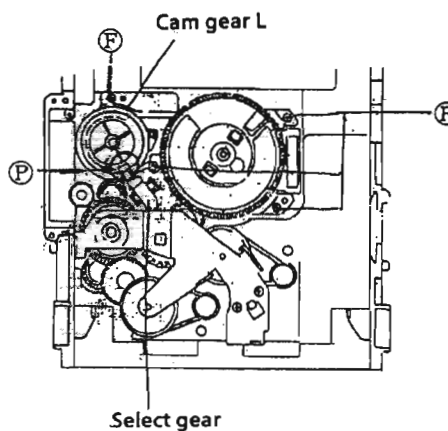

Fig. 2-17
4. Rotate the Cam gear L so that the select gear's (P) is positioned as shown in Fig. 2-17.
5. Remove 4 screws (F) securing the cam unit which includes the cam gear L and Cam R1, R2 ass'y. (See Fig. 2-17.)